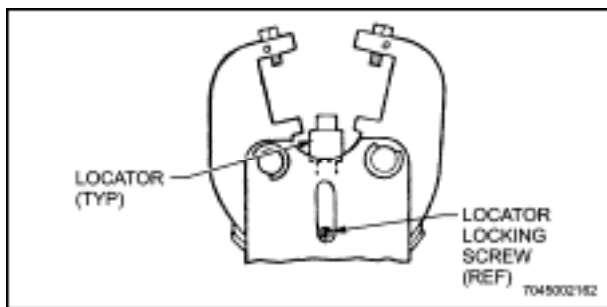

Figure 12-56 Locator and Locking Screw
- Having selected the proper locator die set for the selection chart (see Table 12-12), loosen locator locking screw on tool (see Figure 12-56).